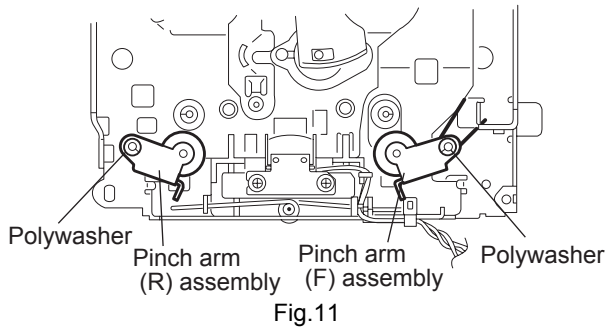

Fig.11
- (2) Release the ten joints **g** and remove the rear cover. (See Fig.11.)
(See Fig.11 and 12)**